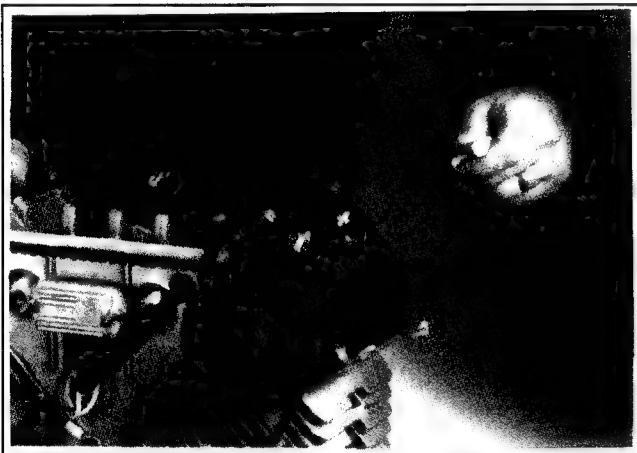

Figure 11-45. Installing Dipstick in Tube.
1. Reinstall dipstick in tube on PTO end. See figure 11-45.